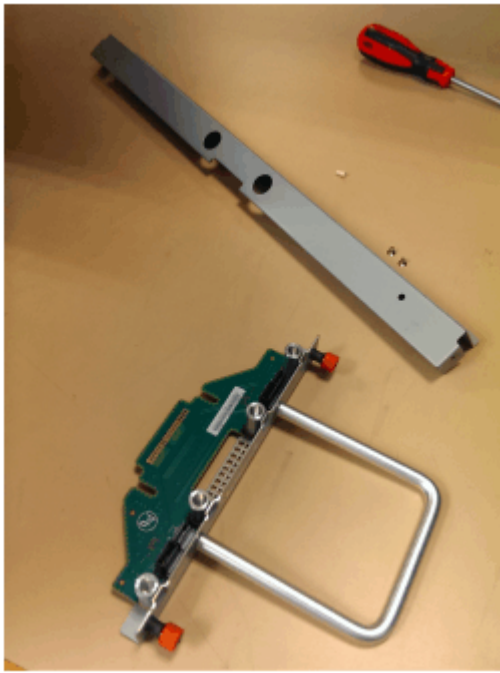

Figure 92. FIB parts for the chassis
1. Assemble the new FIB, cover, and the cover screws (shown in Figure 92 on page 80) in a safe location.